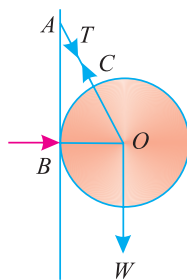

Fig. 5.9.
- A smooth sphere of weight  $W$  is supported by a string fastened to a point A on the smooth vertical wall, the other end is in contact with point B on the wall as shown in Fig. 5.9